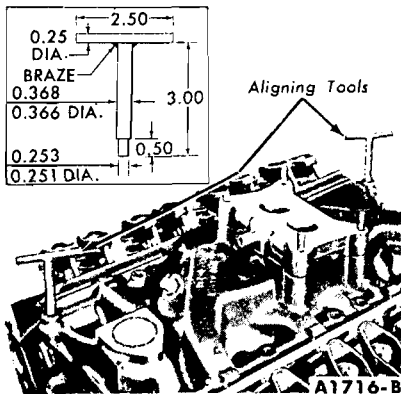

FIG. 26—Intake Manifold Alignment
Intake manifold alignment tools are required when installing the intake manifold on the cylinder block and cylinder heads. Fabricate two alignment tools according to the specifications shown in Fig. 26.
5. Be sure the holes in the manifold gaskets and manifold are in alignment. Position the intake manifold alignment tools (Fig. 26) in the front and rear bolt holes (Nos. 10 and 12) on the left bank of the manifold.